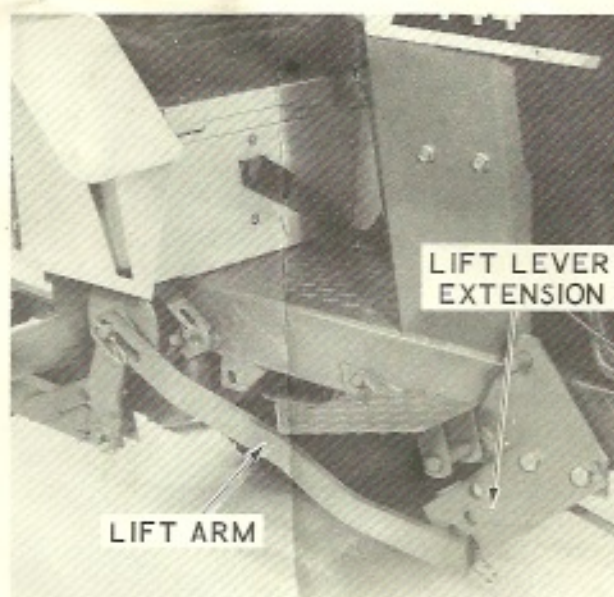

Figure 5. Installing The Lift Lever Extension
4. Secure the Lift Lever Extension to the tractor lift lever with the two 1/2" bolts, nuts and lockwashers provided. See Figure 5.